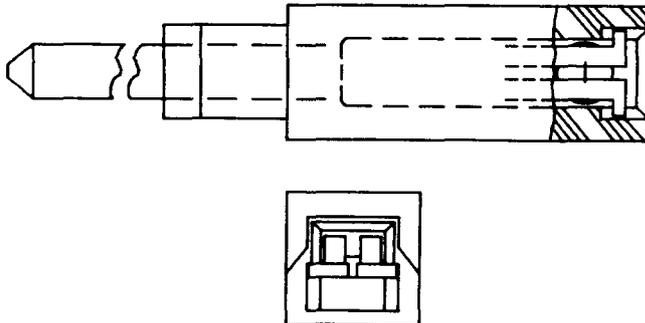

Fig. 1—KS-21274, L1 or L2, Connector
**2.01** *KS-21274, L1 and L2:* The KS-21274, L1 and L2, connector (Fig. 1) each has a solderless, wire-wrapped terminal in a molded insulator. The terminal will accept two 22-, 24-, or 26-gauge wire connections. The L1 insulator is yellow, and the L2 insulator is blue. The KS-21274, L1 and L2, connectors mate with KS-21275-type plugs.